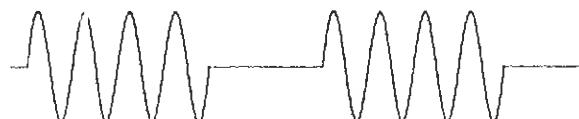

Figure 3-3
- Set the TRIG START LEVEL control to obtain a waveform as shown in Figure 3-3.